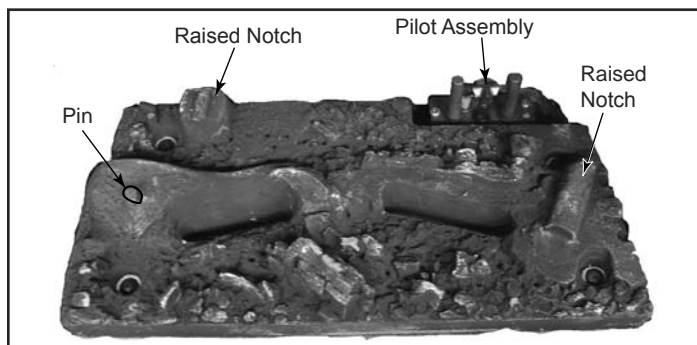
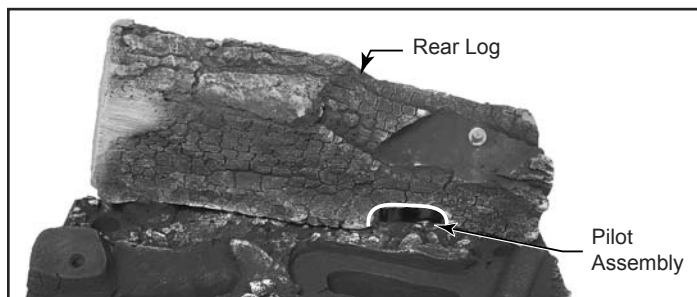

Figure 42 - Rear Log
Figure 43 - Ribs for Logs
2. Install the rear log by mating the notch on the bottom of the log with the raised notch on the back left side of the ember bed. (Figure 42) Ensure the cutout in the right side of the log is sitting around the pilot assembly and pilot is not obstructed. (Figure 43)
3. Install the left log by mating the hole on the bottom of the log with the pin in the ember bed. (Figure 42) Position the log over air hole in ember bed.
4. Install the right log by mating the notch on the bottom of the log with the raised notch on the ember bed. (Figure 42) Position the log over air hole in ember bed.
5. Install top log by mating hole on bottom of log with locating pin on top right side of rear log. (Figure 43) Position log so it is angled down toward the area where the front two logs meet.